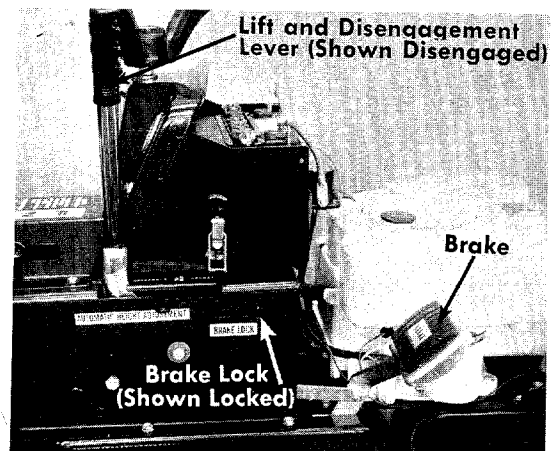

FIGURE 9. RIGHT HAND CONTROLS
- c. **Brake.** The brake pedal is located on the right hand side of the mower and is operated by depressing it with your right foot. See figure 9.
- d. **Brake Lock.** The brake lock is located on the right hand side of the mower. To lock the brake, depress the brake pedal and lift up the lock button. The pedal will stay depressed. To release, depress the pedal. See figure 9.
i. **Lift and Disengagement Lever.** It is used to raise the cutting deck. Pulling it all the way back and locking it disengages the blades. The engine will not start unless the lift and disengagement lever is in the disengaged position. See figure 9.
Step 3. Place the lift and disengagement lever in the DISENGAGED position. See figure 9.
To stop the blades, move the lift and disengagement lever (figure 9) into the DISENGAGED position. This raises the deck and disengages the blades.